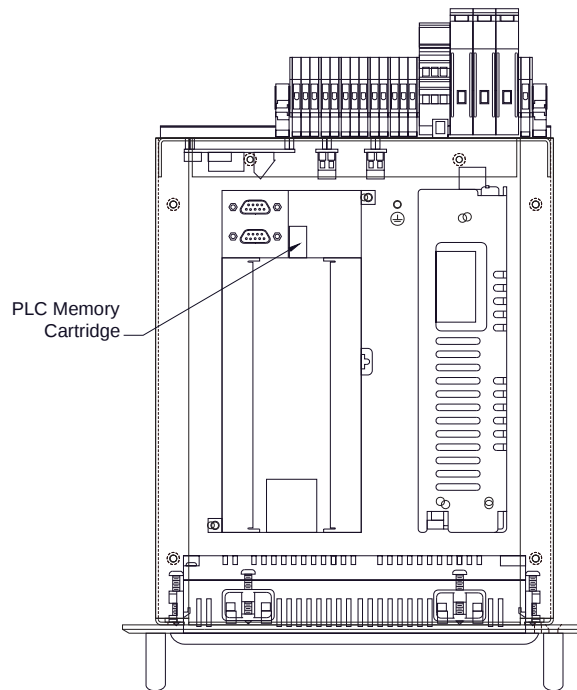

Figure 35 PLC Memory Module
1. Install memory cartridge with new firmware (refer to Figure 35 for memory cartridge location).